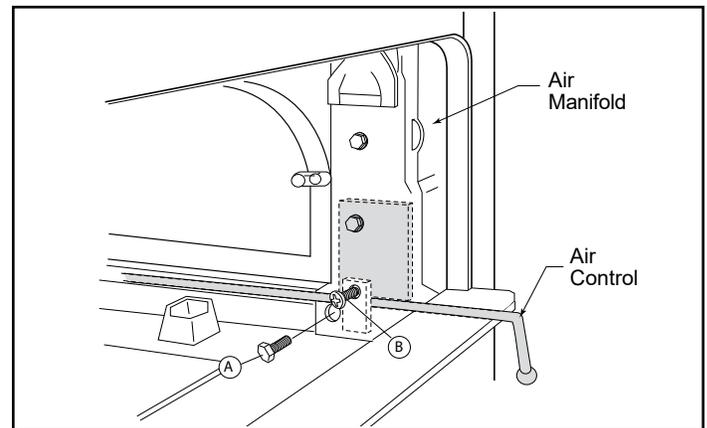

Figure 30 - Primary air control adjustment.
Over time, the air control may tighten or loosen. To adjust the tension on the control, let the stove cool to room temperature. Open the side-loading door and look in toward the inner side of the front panel of the stove. (Figure 30) Locate the lower hex head bolt (A) on the primary air manifold, just inside the door. Remove the bolt with a open end or box end wrench to gain access to the adjustment screw (B) inside the manifold. Insert a Phillips screwdriver into that hole and turn the screw clockwise to increase tension, counterclockwise to decrease tension. Make adjustments in small increments and test the operation. Replace the hex head bolt when you are done.